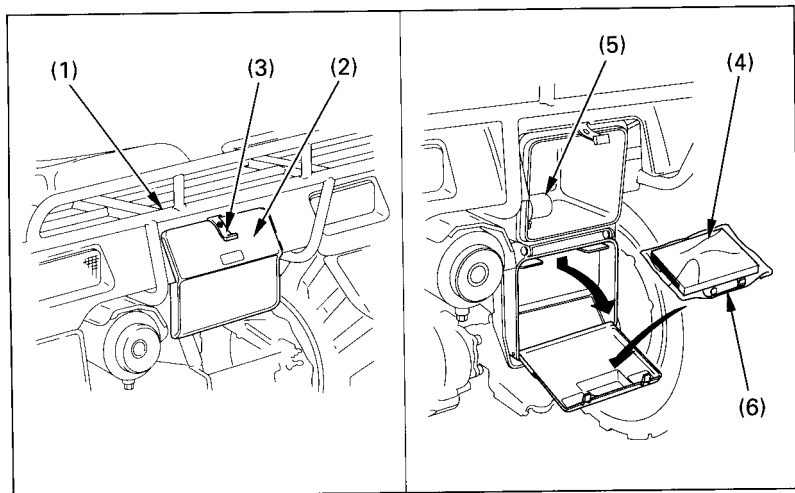

Fig. 2-26
The storage compartment (2) (Fig. 2-26) is below the rear cargo rack (1). To open the compartment, unhook the rubber strap (3). The owner's manual (4), tool kit (5), and air pressure gauge (6) should be stored in the storage compartment (2).